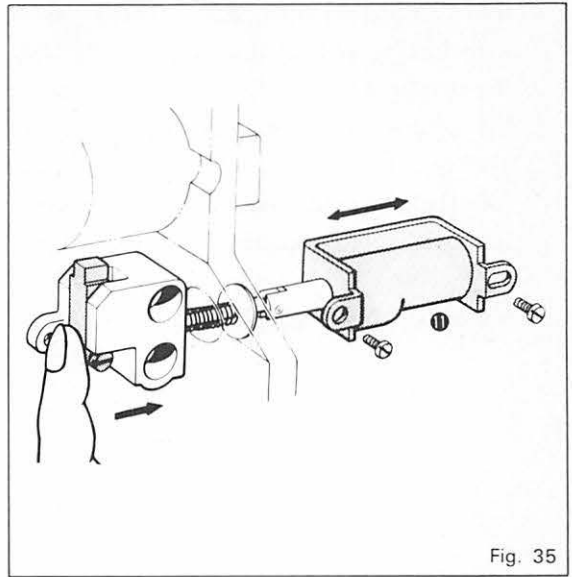

Fig. 35
If, on the contrary, this stroke is too big, loosen the screws for solenoid ① and move it to left, and if small, to right. In this case, making sure that the stopper is returned with its spring action when you push it with your finger, you fix the solenoid moving it left or right. (Fig. 35)